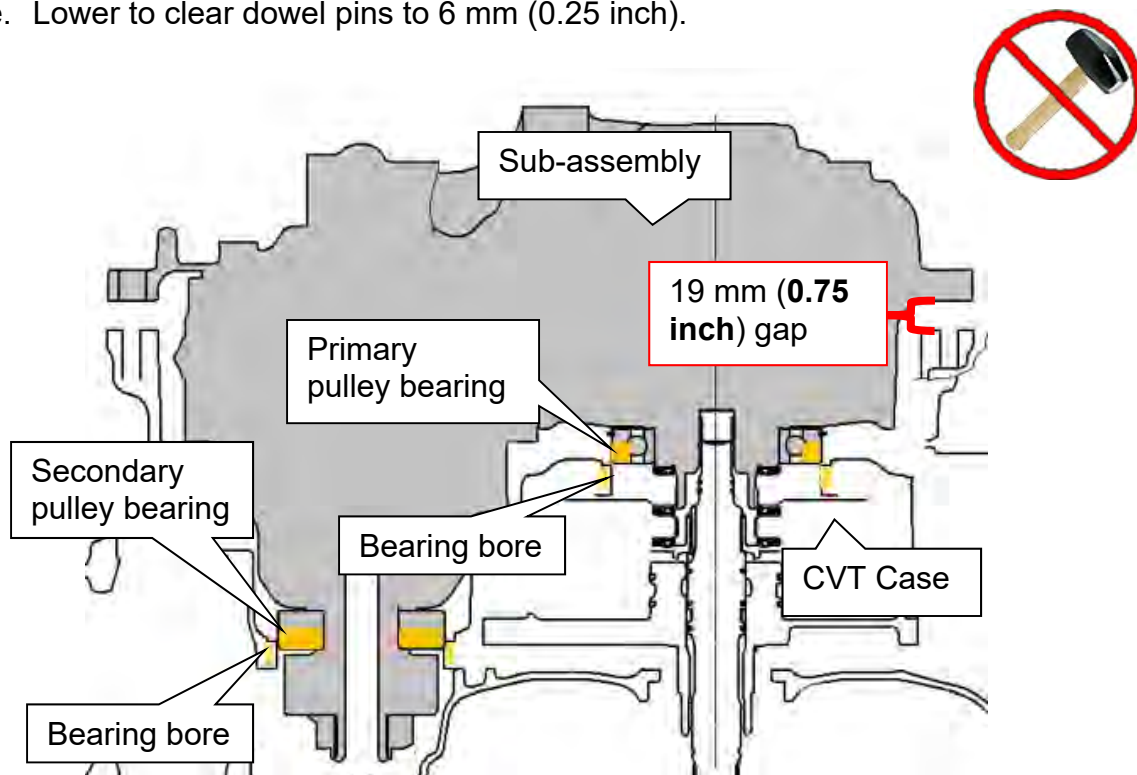

Figure 99
- If the primary and the secondary pulley bearings do not align properly with their bores (Figure 99) or are at an angle, a **gap of 19 mm (0.75 inch)** may be present.